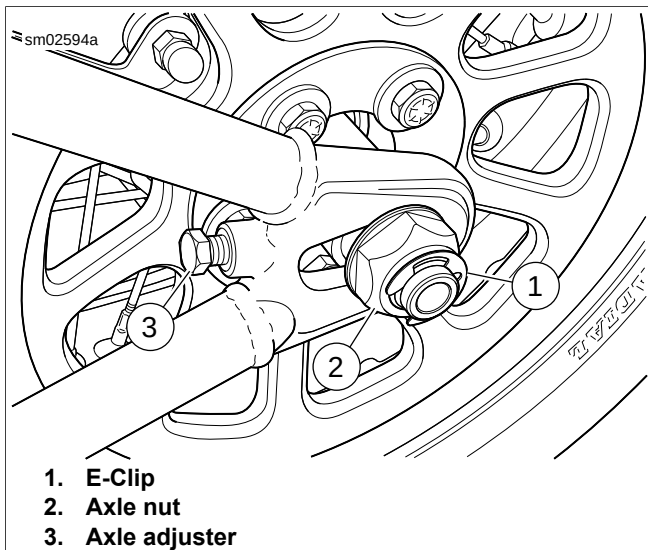
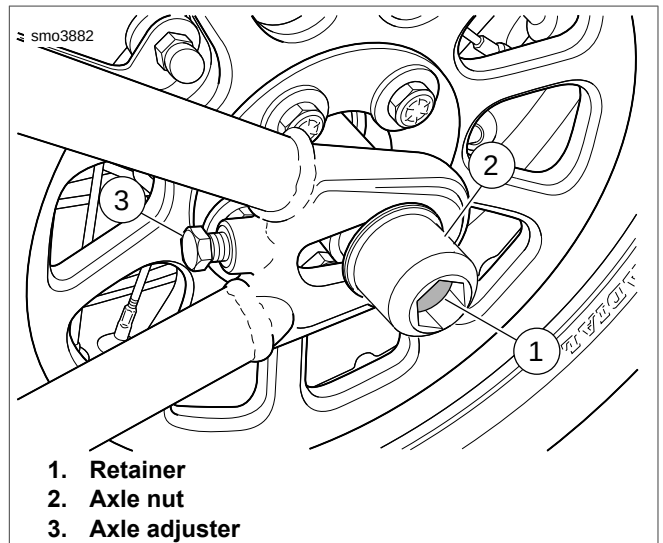

Figure 1-24. Axle Adjusters
Figure 1-25. Axle Adjusters: FXSB
1. **All but FXSB:** See Figure 1-24. Remove e-clip (1). Loosen rear axle nut (2).
2. **FXSB:** See Figure 1-25. Loosen rear axle nut (2).
3. Adjust belt tension by turning the axle adjusters (3) an equal number of turns to keep the wheel aligned until the specification in Table 1-12 is achieved.
4. Tighten axle nut (2) to 95-105 ft-lbs (128.8-142.4 Nm).
5. **All but FXSB:** See Figure 1-24. Install e-clip.